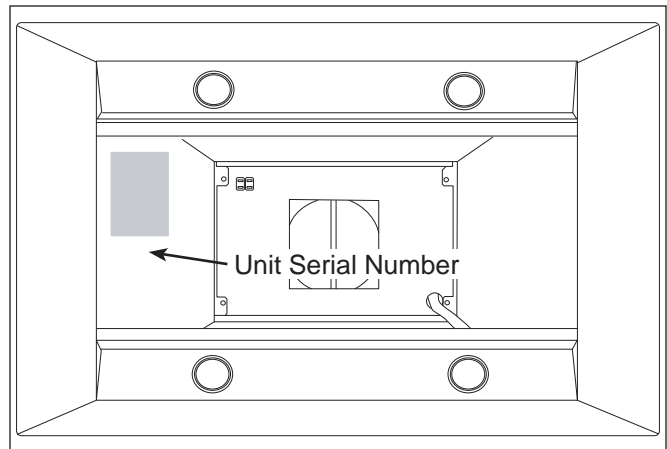

Figure 1-2 Serial Plate Location (CT Hoods)
- See Figures 1-2 & 1-3 for Serial Number location.